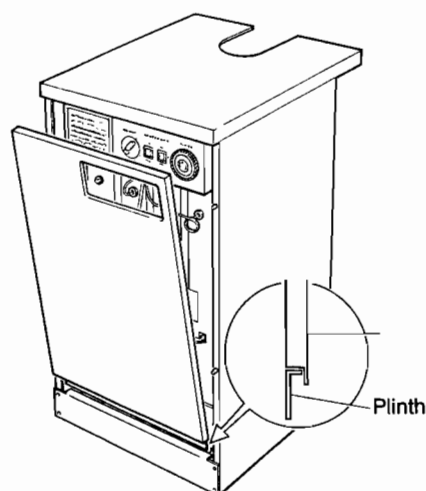

Fig. 3
1. Remove the case door by carefully pulling it forwards at the top to disengage the fixings and lifting it over the plinth, see Fig. 3.
9. Replace the case door - Locate the bottom edge of the door panel over the plinth and carefully push the door onto the fixings on the case sides, see Fig. 3.